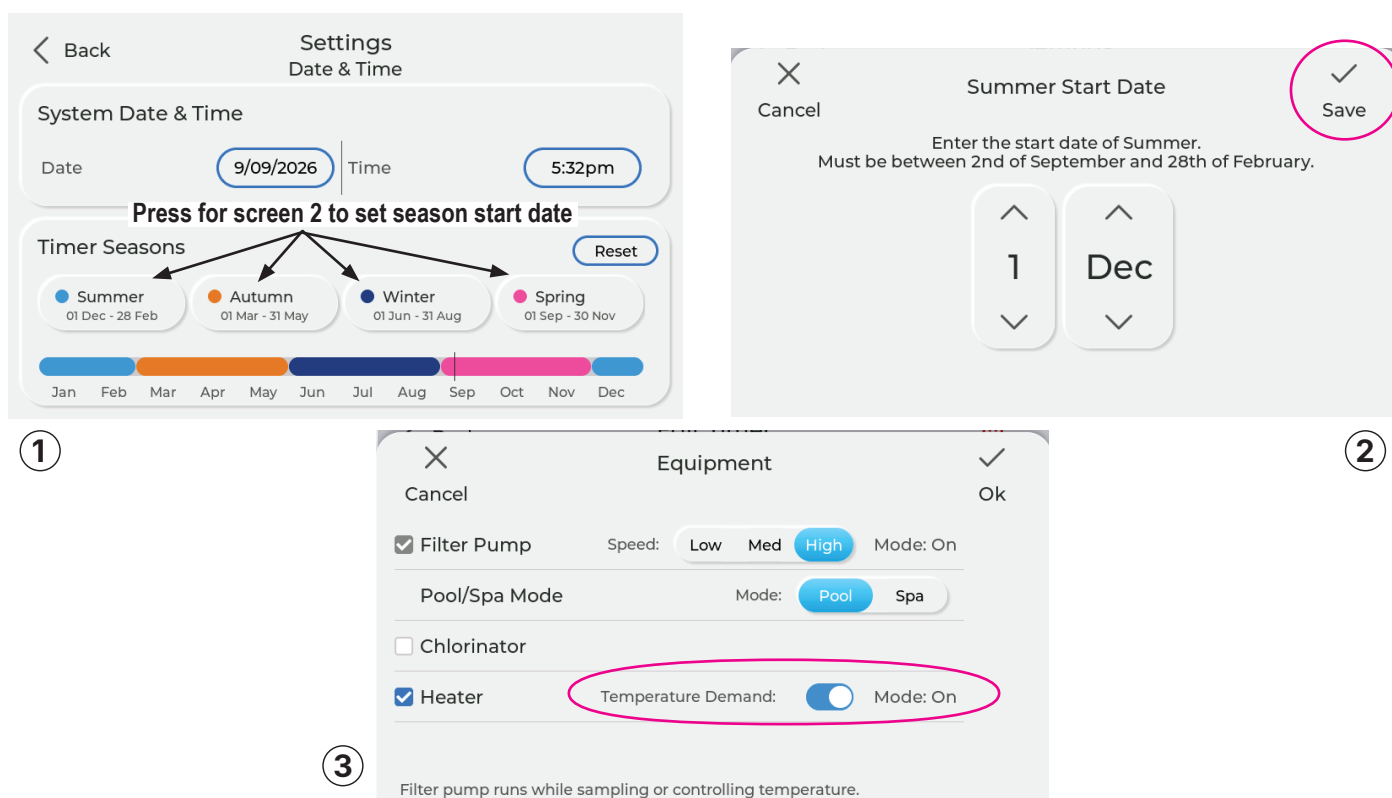

Figure 14. Date, Time and Seasons Settings Screen
- To set a timer for the Temperature Demand in the timers section, select the check box for the filter pump and heater, then toggle the Temperature demand slider ON. See Figure 14 screen 3.
- If this selection operates outside of normal sanitisation timers, Echo will not produce chlorine during that temperature sampling period. **NOTE:** It is recommended to uncheck the chlorinator setting in this timer window. See Figure 14 screen 3.